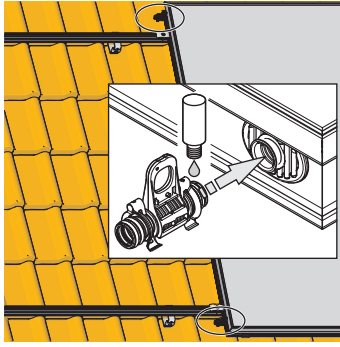

Fig. 3-23 Inserting the expansion joint
4. Apply lubricant to the O-rings of the expansion joints (Fig 3-23).